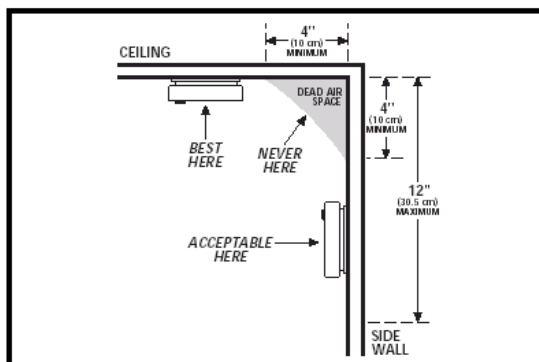
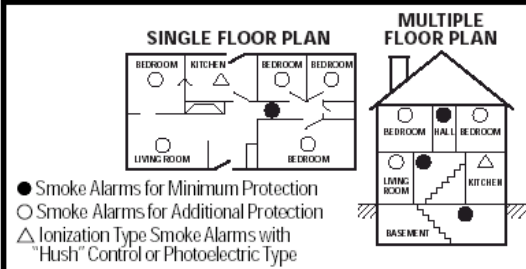

FIGURE 1
FIGURE 2
- When mounting an alarm on the ceiling, locate it at a minimum of 4" (10 cm) from the sidewall (see Figure 1).
- When mounting the alarm on the wall, use an inside wall with the top edge of the alarm at a minimum of 4" (10 cm) and a maximum of 12" (30.5 cm) below the ceiling (see Figure 1).
Modern mobile homes have been designed and built to be energy efficient. Install smoke alarms as recommended above, refer to RECOMMENDED LOCATIONS and Figure 1. In older mobile homes that are not well insulated compared to present standards, extreme heat or cold can be transferred from the outside to the inside through poorly insulated walls and roof. This may create a thermal barrier that can prevent the smoke from reaching an alarm mounted on the ceiling. In such units, install the smoke alarm on an inside wall with the top edge of the alarm at a minimum of 4" (10 cm) and a maximum of 12" (30.5 cm) below the ceiling (see Figure 1). If you are not sure about the insulation in your mobile home, or if you notice that the outer walls and ceiling are either hot or cold, install the alarm on an inside wall. For minimum protection, install at least one alarm close to the bedrooms. For additional protection, see SINGLE FLOOR PLAN in Figure 2.